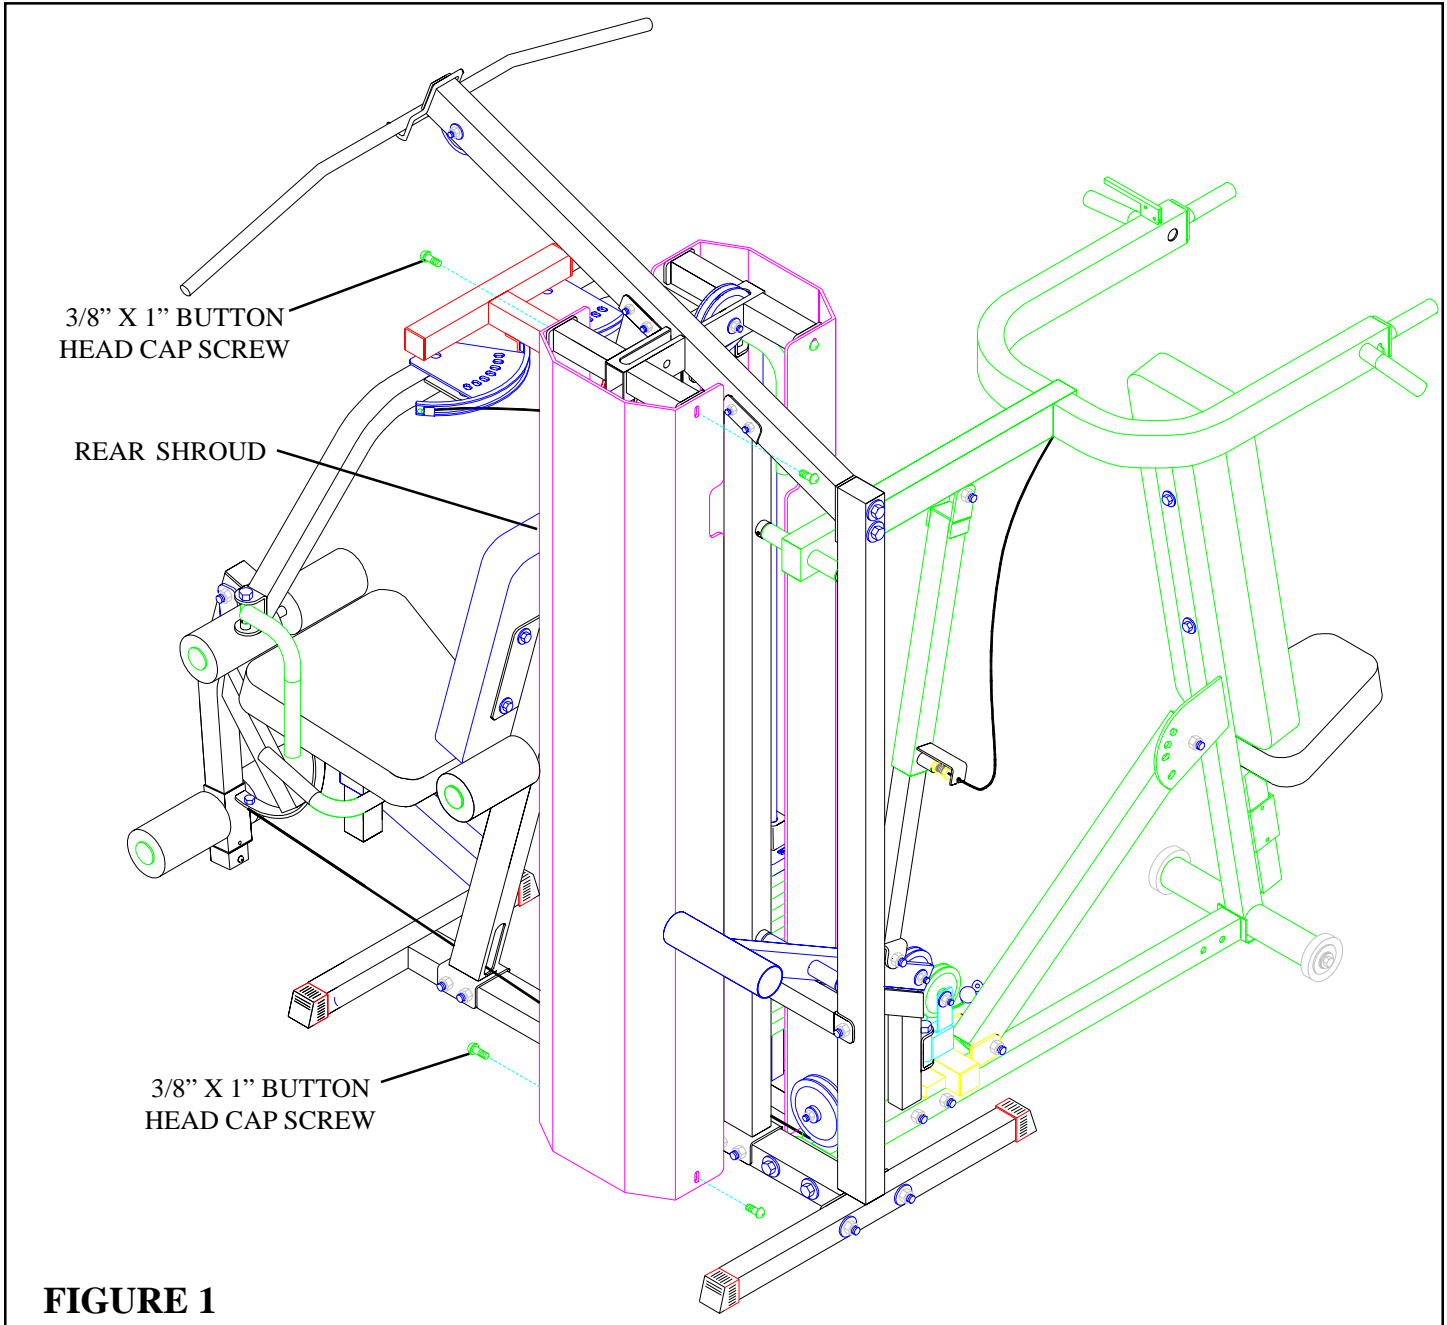

FIGURE 1
- **REMOVE** the four 3/8" X 1" BUTTON HEAD CAP SCREWS from the rear SHROUD. Remove the SHROUD from the 660101 HOME GYM. See FIGURE 1.